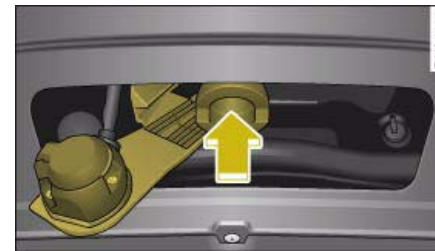

Fig. 240 Removable towing bracket: Inserting the ball joint
- With the spring mechanism in the "ready" position, insert the ball joint into the mounting fixture and push it upwards ⇒ page 237, fig. 240 in the direction indicated (arrow) ⇒ ⚠. The spring mechanism should then engage automatically with an audible click.